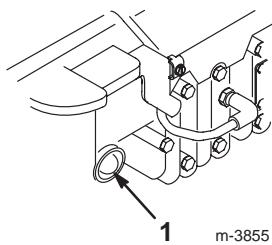

Figure 9
- Push in the primer three times, waiting one second between each push (Fig. 9).